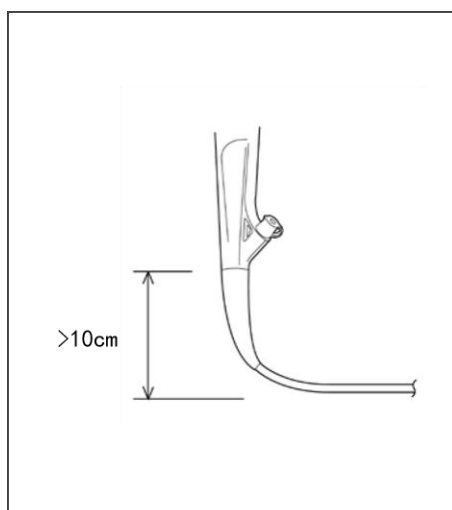

Figure 4.2
- As shown in Figure 4.2, do not bend the part within 10 cm from the contact point between the protective sleeve and the operation section. Otherwise, it may cause damage to the insertion section.